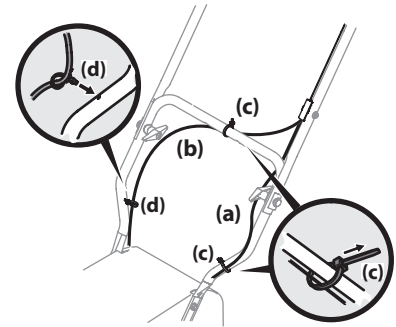

Figure 2-11
NOTE: The auger cable (a) routes down the left lower handle and the drive cable (b) is routed across the top of the lower handle and down the right side of the lower handle. See Figure 2-11.
- Two cable ties (c) have been used to loosely tie the control cables to the lower handle, including the cable tie (c) you relocated in step 3. A push clip (d) is also included on the lower drive cable (b). Position cable ties (c) now, as in Figure 2-11, and tighten to secure cables (a & b) to the lower handle. Trim off excess material of cable ties (c). If not already installed, push the clip (d) on the drive cable (b) into the hole in the handle provided as shown in the left inset.